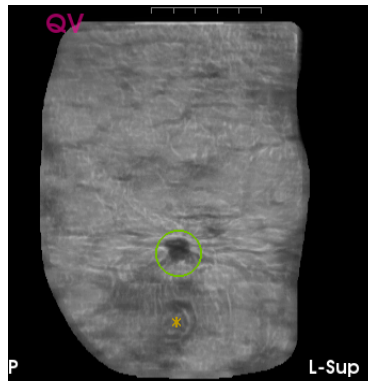
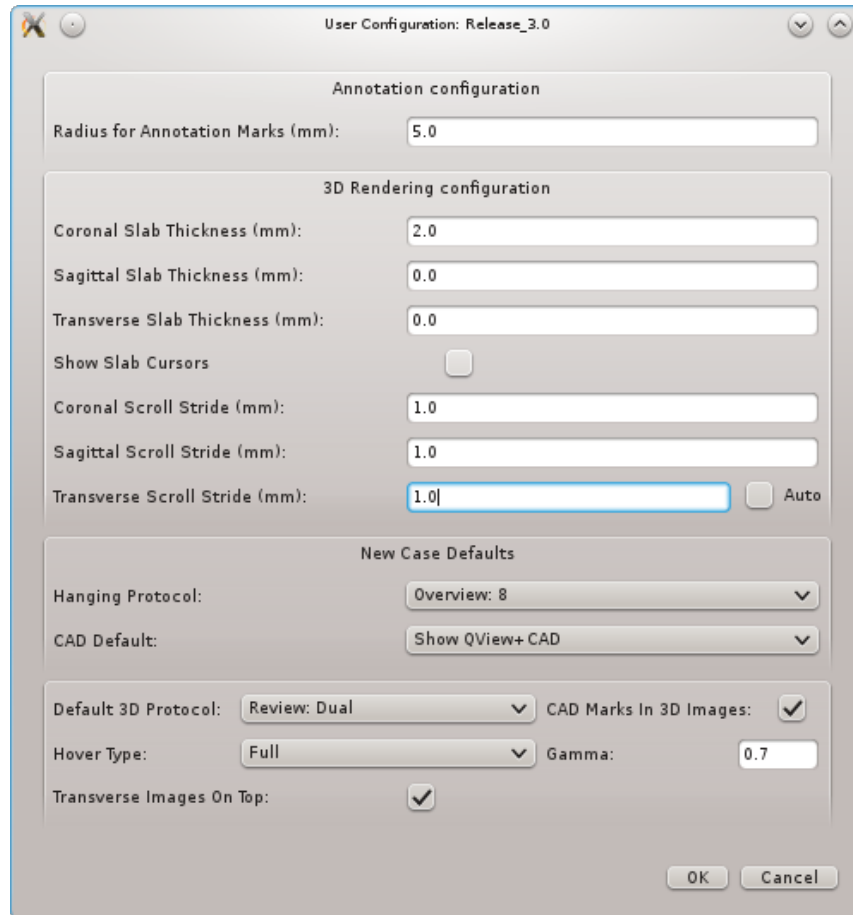

Figure 9 CAD Navigator Image
Figure 13 User Configuration Screen
One CAD Navigator Image is generated for each acquired view of a study. It is a 2D projection of the Coronal image data of that view. The CAD Navigator Image shows areas of interest indicated by CAD Marks and CAD enhanced dark areas and/or radial spiculations and retraction patterns. The CAD Navigator Image is a roadmap to be used concurrently with the 3D images of the view for review. Each CAD Navigator Image is distinguished by a “QV” in the upper left corner as shown in Figure 9. All CAD marks are displayed on the CAD Navigator image. Two CAD marks may be superimposed on the CAD Navigator image but can be distinguished in the 3D display of the native ABUS images.
**System Settings Button** –displays the User Configuration screen (See Figure 13). The screen displays the current software release in the title bar and enables the user to customize the QVCAD System. The values indicated in Fig.9 are recommended by QView Medical Inc. The values may be changed based on the user’s preference. The User Configuration Options are noted in Table 14. Once all changes have been made, the OK button saves the changes or the Cancel button will discard the changes.